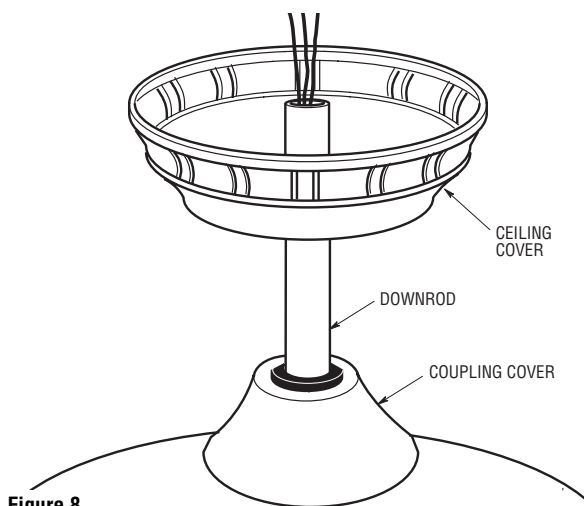

Figure 8
- 13. Separate, untwist and unkink the three 80" motor leads. Route the motor lead wires through the downrod. Remove the upper setscrew from the motor coupling. Align the clevis pin holes in the downrod with the holes in the motor coupling. Install the clevis pin and secure with the hairpin clip (Figure 8). The clevis pin must go through the holes in the motor coupling and the holes in the downrod. Be sure to push the straight leg of the hairpin clip through the hole near the end of the clevis pin until the curved portion of the hairpin clip snaps around the clevis pin. The hairpin clip must be properly installed to prevent the clevis pin from working loose. Pull on the downrod to make sure the clevis pin is properly installed. Reinstall the upper setscrew in the motor coupling. Check that the lower setscrew is tightened securely (Figure 8).